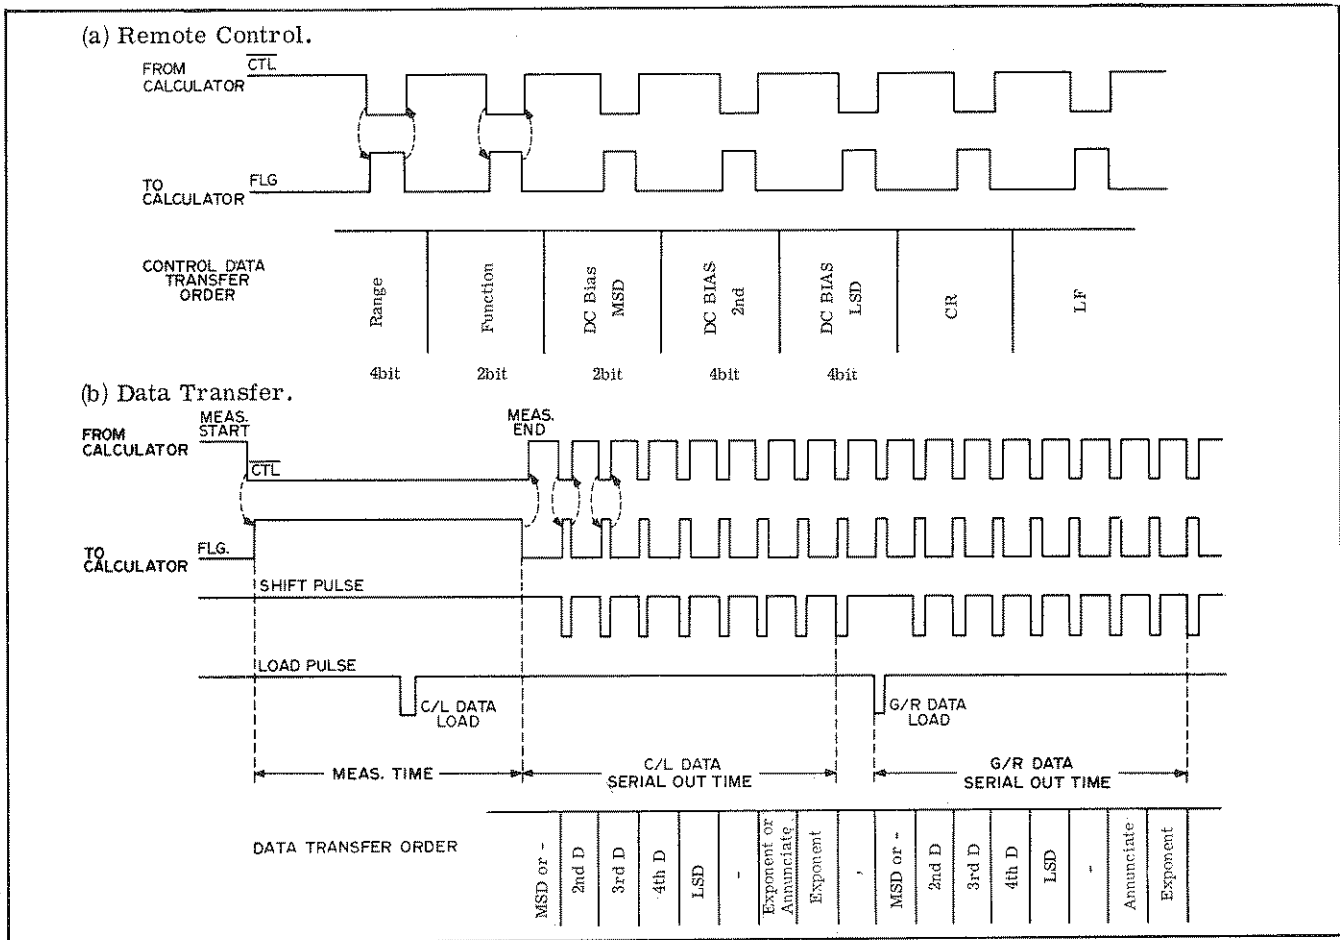

Figure 3-22. Timing Diagram: OPT 005.
6. Figure 3-22 provides a timing diagram.
7. Remote Control. Figure 3-22 shows how setting signals for RANGE, FUNCTION and DC BIAS VTG from the calculator to Model 4271A are sent by the CTL signal from calculator. A 4-bit RANGE signal is sent to 4271A in the time interval between receipt of CTL at option 005 and returning FLG to calculator. A 2-bit FUNCTION signal, DC BIAS VTG signal, CR (carriage return) and LF (line feed) signals are also sent to the 4271A.
8. Data transfer. Figure 3-22 Data transfer shows how the SP (shift pulse) signal generated by CTL signals enables transfer of 4271A data in serial form to calculator.